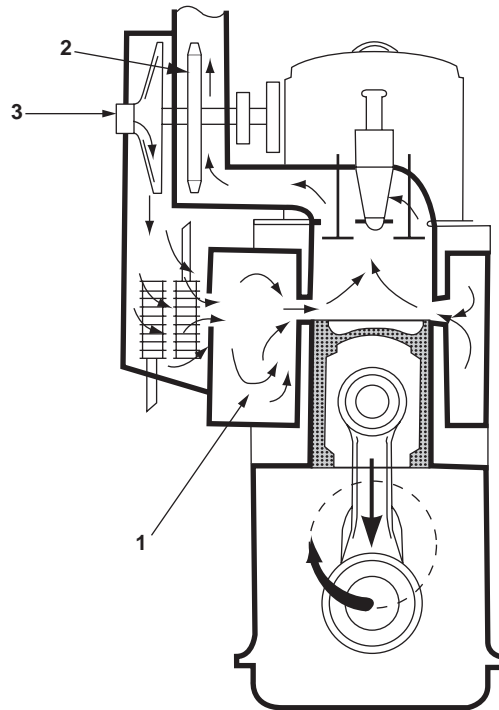

Figure 2. Engine Operation and Air Starting System
Air is ducted from the weather decks to the main propulsion engines. The air is thoroughly cleaned by passing through the air intake filters, protecting the engine from abrasive material as well as protecting the lubricating oil from contaminants. Filtered air is provided to the engine air box (figure 2, item 1) after being pressurized by the turbocharger (figure 2, items 2 and 3).
Exhaust gases from the engine cylinder are discharged from the cylinder heads into the exhaust manifold and turbocharger turbine (figure 2, item 3). Going through the turbine, the gases pass through the turbocharger ducting, up the stack, and to the atmosphere. The engine exhaust also has condensation drain lines and temperature sensors.